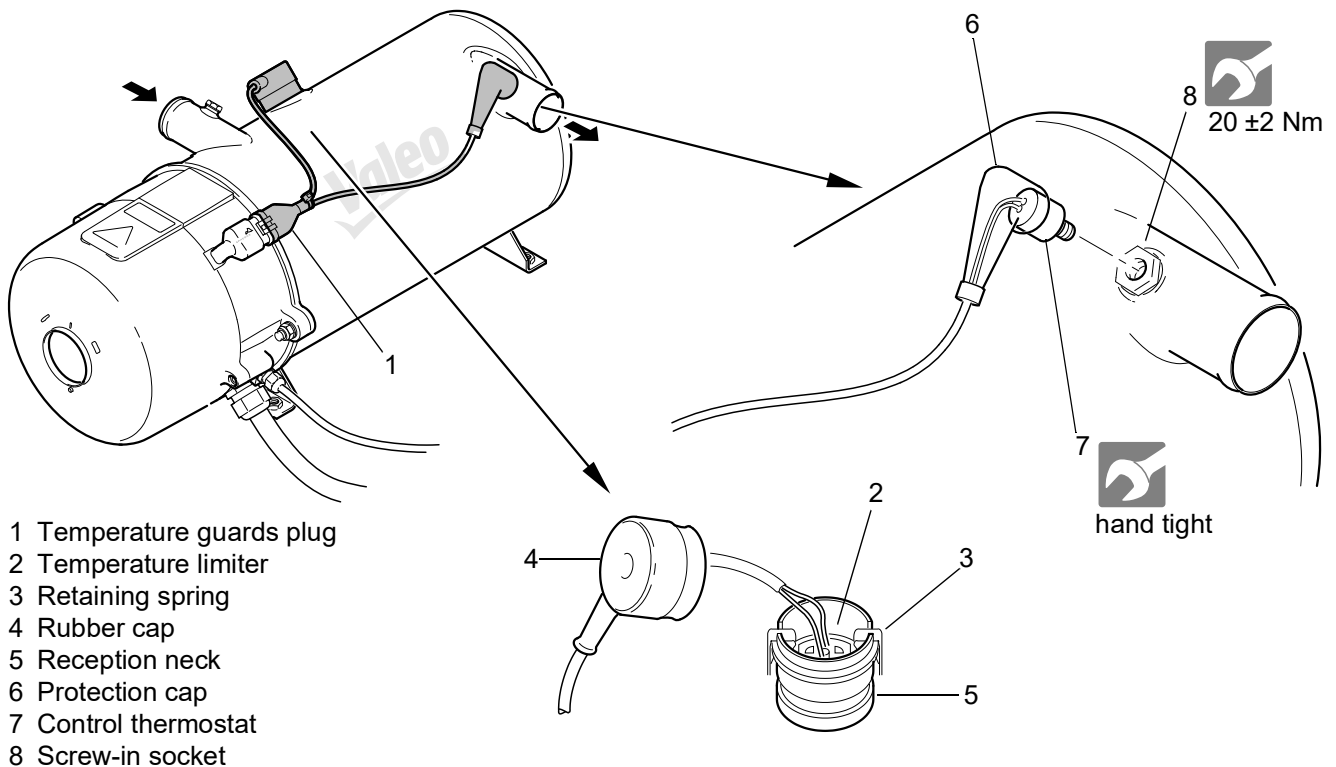

Fig. 801 Removal and installation of the temperature guards
2. Disconnect temperature guards plug (1, Fig. 801).
3. Remove the rubber cap of the temperature limiter (4).
4. Using a screw driver, lever off retaining spring (3) and remove the temperature limiter (2).
5. Remove the protection cap (6) of the control thermostat (7).
6. Screw out by hand the control thermostat (7).
1. Screw the control thermostat (7, Fig. 801) by hand into the coolant inlet.
2. Install protection cap (6).
3. Slide rubber cap (4) of the temperature limiter back
4. Position temperature limiter (2) in the reception neck (5) and push in the retaining clip (3).